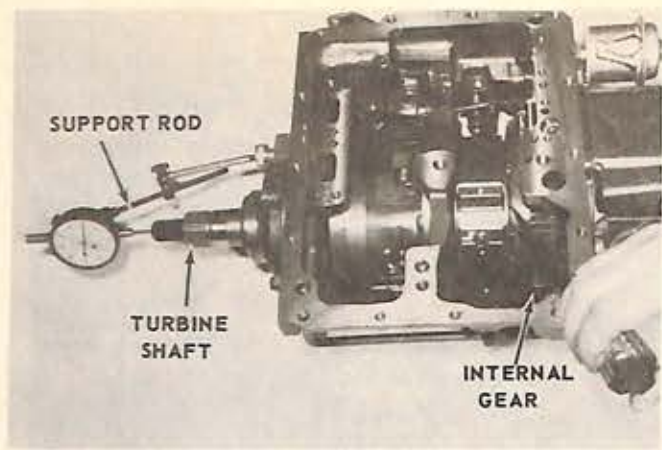

Fig. 37
3. Remove the screwdriver and pry the units toward the front of the transmission by inserting the screwdriver between the large internal gear and the rear drum (Fig. 37).